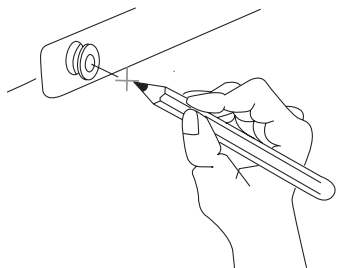

fig.4
2. Before drilling the wall, mark out a template following carefully the dimensions as shown in fig.4.